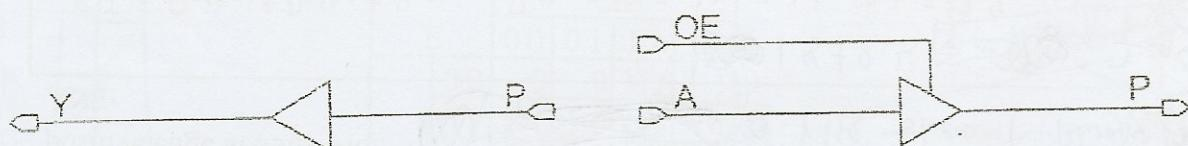
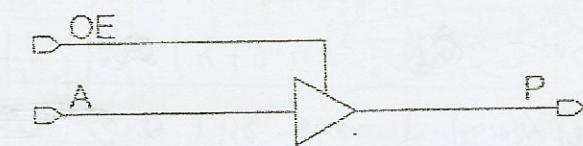

Figure 2. PIC2A
Figure 3. POC2A
A. (5points) If we use PIC2A as the input pad and POC2A as the output pad as described in Figure 2, Figure 3 and Table 1, please write the commands for the port constraints of TOP related to pad explicitly including the exact numbers. (Hint: 2 commands for input and 2 commands for output, please use set_drive, set_load, set_input_delay, and set_output_delay commands)